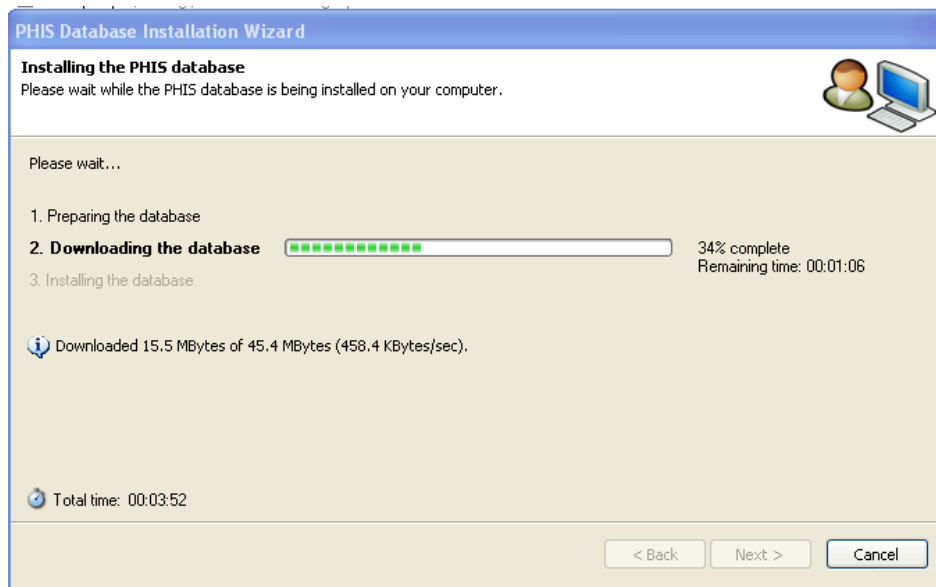

Figure 3: PHIS Database Installation Wizard
3. Next, PHIS checks for your database. If necessary, the PHIS Data Installation Wizard (see Figure 3: PHIS Database Installation Wizard) will download and update your database. Follow the instructions to complete the process.